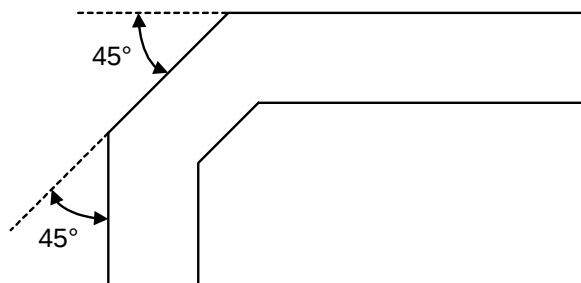

Figure 6. Trace Routing
3.3.1 82547GI(EI) Ethernet Controller LAN Disable Guidelines
The 82547GI(EI) Controller has a LAN_DISABLE# function that is present on FLSH_SO ball P9. This pin can be connected to a GPIO pin on the ICH5 component to allow the BIOS to disable the Ethernet port (see Figure 6). If the serial FLASH interface is populated, make sure the FLASH serial output pin does not interfere with this function.
- For high-speed signals, the number of corners and vias should be kept to a minimum. If a 90° bend is required, it is recommended to use two 45° bends instead. See Figure 6.